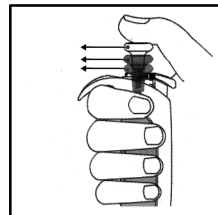

Figure 8
- Press down the control button to the second stop to blow out any remaining liquid (Figure 8).